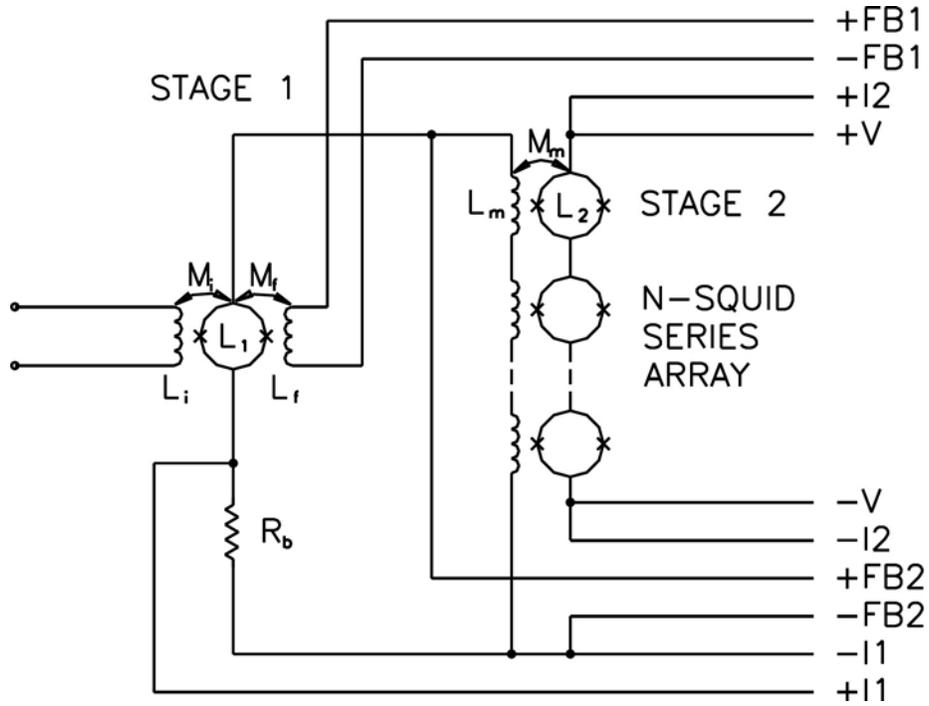

Figure 3-1 Schematic diagram of a typical two-stage SQUID amplifier.
The Programmable Feedback Loop Model PFL-102 is designed to operate two-stage SQUID amplifiers, which are available separately from STAR Cryoelectronics. Originally developed by Martinis and Welty,1 the two-stage amplifier design is shown schematically in Figure 3-1. The low-noise SQUID in the input stage is voltage-biased using resistor  $R_b$  and SQUID bias current  $I_1$ . The input SQUID is connected in series with the modulation coils of a series array of  $N$  identical, non-hysteretic SQUIDs in the output stage. The total inductance of the array modulation coils is  $NL_m$ .
1. To view the current-voltage characteristic of the input SQUID, set the S-BIAS control to zero, and the TEST INPUT control to “SQUID Bias”. For the SQUID bias test signal input, 1 V corresponds to a current of 200  $\mu\text{A}$  through the bias resistor  $R_b$  (see Figure 3-1). To determine the actual current through the input SQUID, it is necessary to know the exact value of  $R_b$ . This may be done using the procedure discussed in Section 3.2.5.